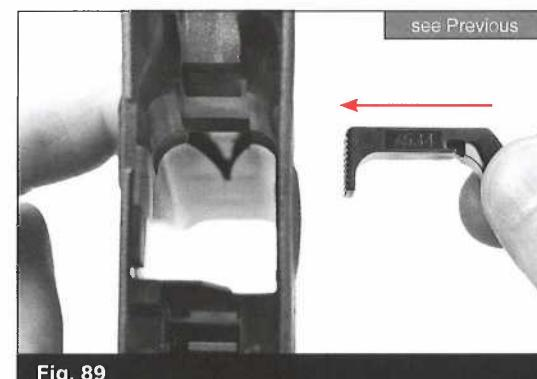
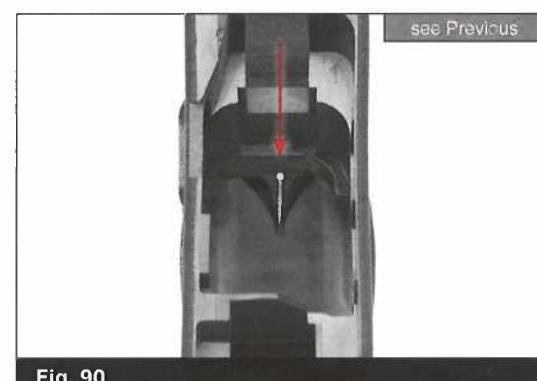

Fig. 89
Fig. 90
- Insert the magazine catch body (Fig. 89) and then using the pliers insert the magazine catch spring in the provided hole and push this down with the tip of the screwdriver. (Fig. 90) Make sure to seat it completely.